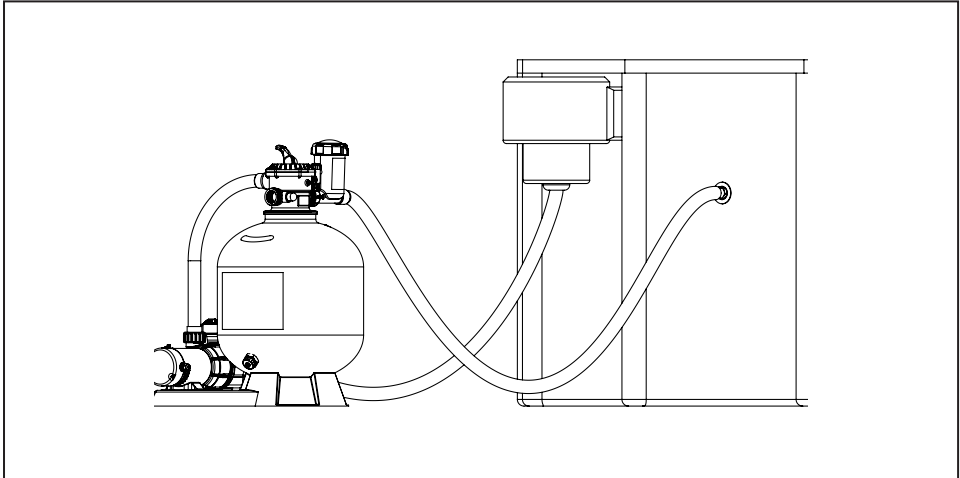

Figure 3a. Flex Hose Installation Configuration
- If the pool is plumbed with corrugated or flex hose, install the hose adapter provided in the outlet. (Fig. 3a) Take the 1-1/2" hose adapter and install in the outlet with Teflon tape (not provided).